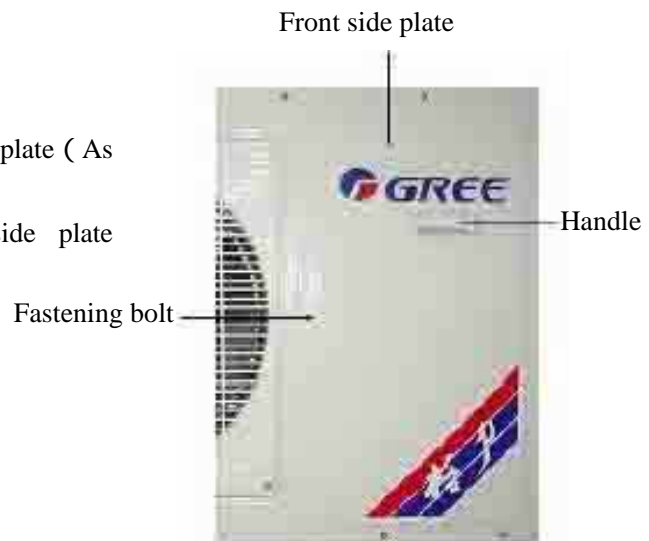

Fig 4.2.2-1
- Screw off the fastening screw of the front side plate (As shown in Fig 4.2.2-1)